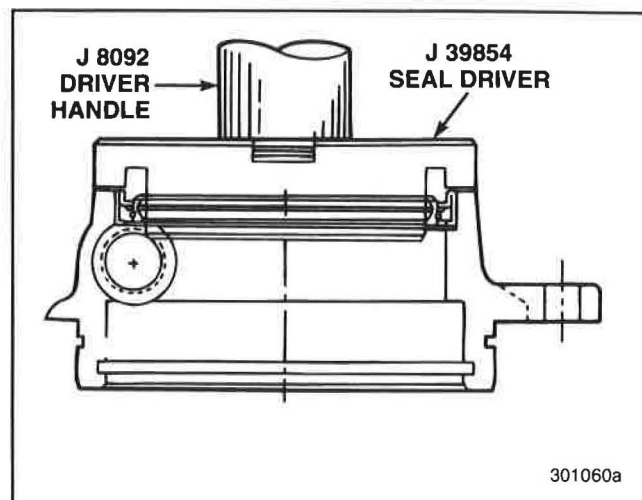

Figure 172 — Pressing Oil Seal into Mainshaft Rear Bearing Cover
1. Gently press a new oil seal into the mainshaft rear bearing cover using the tool arrangement depicted in Figure 172. Correct seal installation depth is achieved as the driver tool contacts the cover.